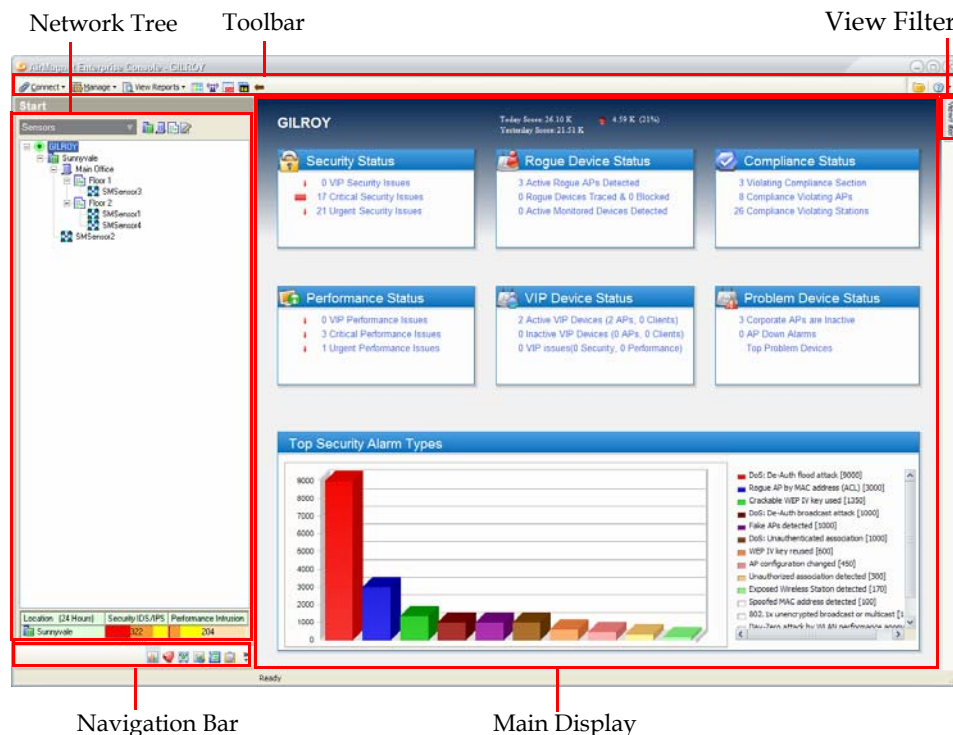

Figure 4-2: AirMagnet Enterprise Start screen (default)
- 2) Select an AirMagnet Enterprise Server, and click **Connect**. The AirMagnet Enterprise Console's Start screen appears once the Console-Server connection is established. See Figure 4-2.
As illustrated in Figure 4-2, the AirMagnet Enterprise Console UI can be divided into two main parts: the Network/Policy Tree on the left and the Data Display on the right. Across the top of the screen are a number of control buttons and menus. Located at the bottom right of the screen is the Navigation Bar with seven navigation buttons. The following sections highlight the functions of these major UI components.